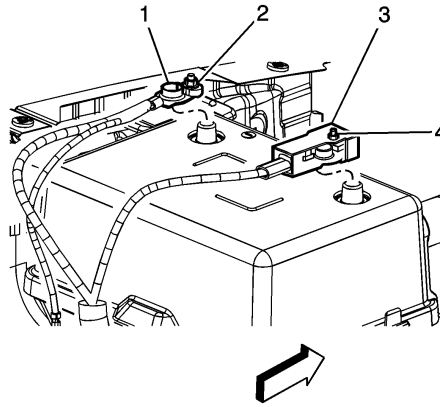

Fig. 1 Battery cable removal
4. Loosen battery ground cable nut (2), Fig. 1.
5. Disconnect battery ground cable (1) from battery, Fig. 1.
6. Open protective cover (3) to access battery positive cable terminal, Fig. 1.
7. Loosen battery positive cable nut (4), Fig. 1.
5. Connect battery positive cable to battery, Fig. 1. Torque battery cable nut to 80 inch lbs.
6. Close protective cover (3) over battery positive cable terminal, Fig. 1.
7. Connect battery ground cable (1) to battery, Fig. 1. Torque battery cable nut to 80 inch lbs.